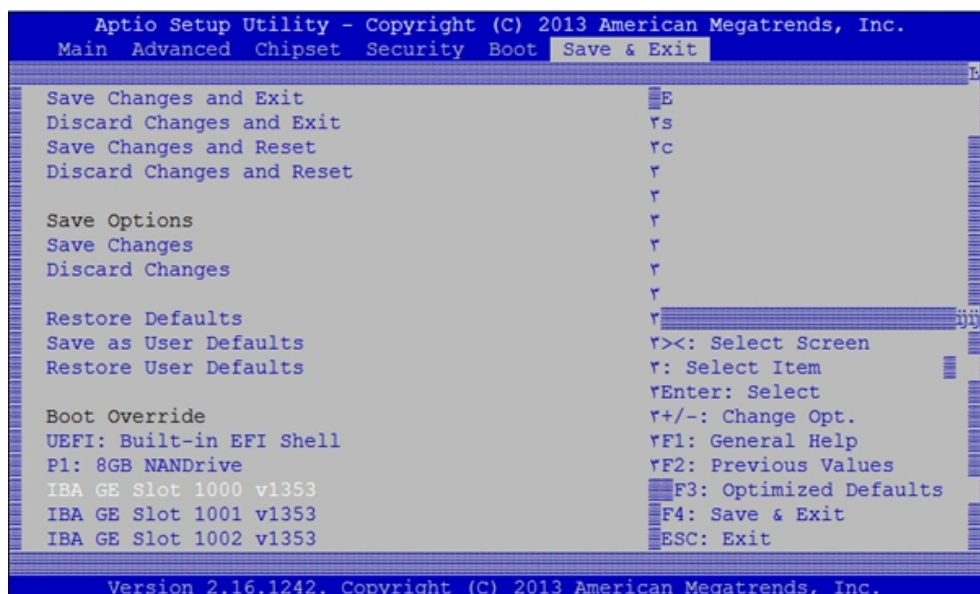

Figure 7-6: Selecting a Boot Device from the Save & Exit Tab
1. In the BIOS menu, select the *Save & Exit* tab (Figure 7-6 below, below).